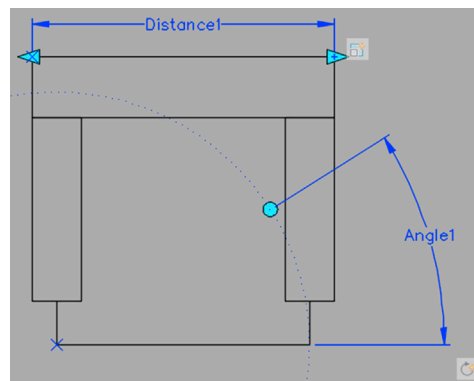

FIGURE 7.12 Dynamic Block, Step 3.
Step 3. Now, you can add actions associated with those parameters. Pick the Actions tab and pick Scale. Then, select the Parameter and the Objects (the chair), as prompted. Repeat the same steps for the rotation. The result is shown in Fig. 7.12. Notice the new (faded) scale and rotate symbols, and the disappearance of the exclamation point.